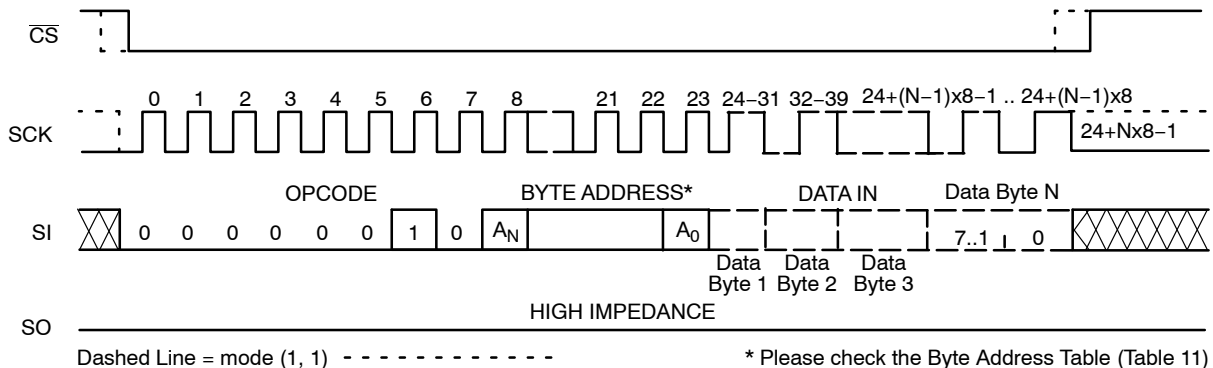

Figure 6. Page WRITE Timing
After sending the first data byte to the CAV25128, the host may continue sending data, up to a total of 64 bytes, according to timing shown in Figure 6. After each data byte, the lower order address bits are automatically incremented, while the higher order address bits (page address) remain unchanged. If during this process the end of page is exceeded, then loading will “roll over” to the first byte in the page, thus possibly overwriting previously loaded data.
The additional 64-byte Identification Page (IP) can be written with user data using the same Write commands sequence as used for Page Write to the main memory array (Figure 6). **The IPL bit from the Status Register must be set (IPL = 1) using the WRSR instruction, before attempting to write to the IP.**